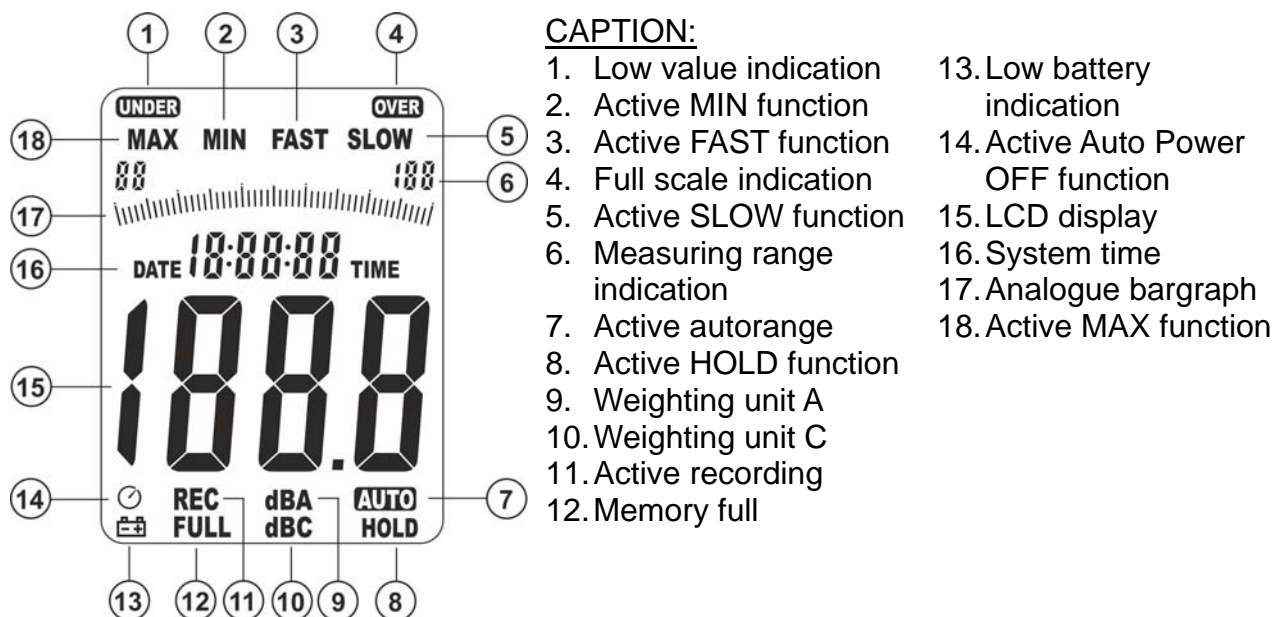

Fig. 2: Display description
Press key **LEV** to select measuring range (see Fig. 2 – part 6). The following ranges are available: **30 ÷ 80dB** (low), **50 ÷ 100dB** (medium), **80 ÷ 130dB** (high), **30 ÷ 130dB** (Autorange). Message “AUTO” (see Fig. 2 – part 7) appears when “Autorange” is selected. Message “UNDER” (see Fig. 2 – part 1) appears when the measured value is lower than the minimum value of the selected range. Message “OVER” (see Fig. 2 – part 4) appears when the measured value is higher than the maximum value of the selected range. Key **LEV** is used also when setting system date/time (see § 4.3.9).
14. Looking at the indicated system time (see Fig. 2 – part 16), press key **REC** to activate recording in the desired instant. Message "REC" appears at the bottom of the display (see Fig. 8).